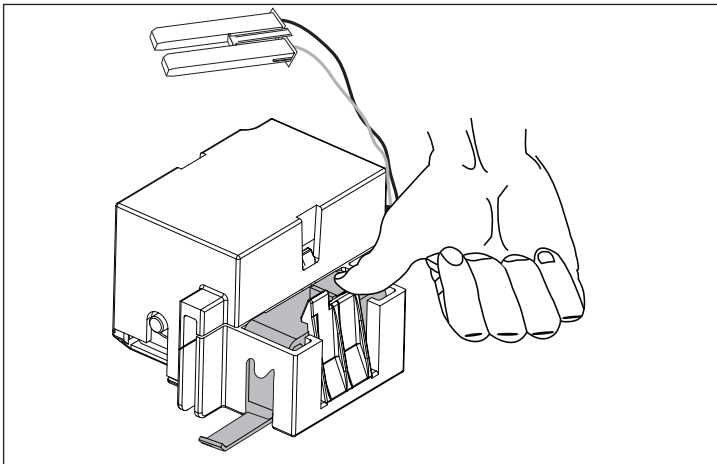

Figure 10. Step 3.
Step 3: Carefully press the latch check switch down as shown until a snapping sound is heard. This sound indicates the switch is properly seated (Figure 10).